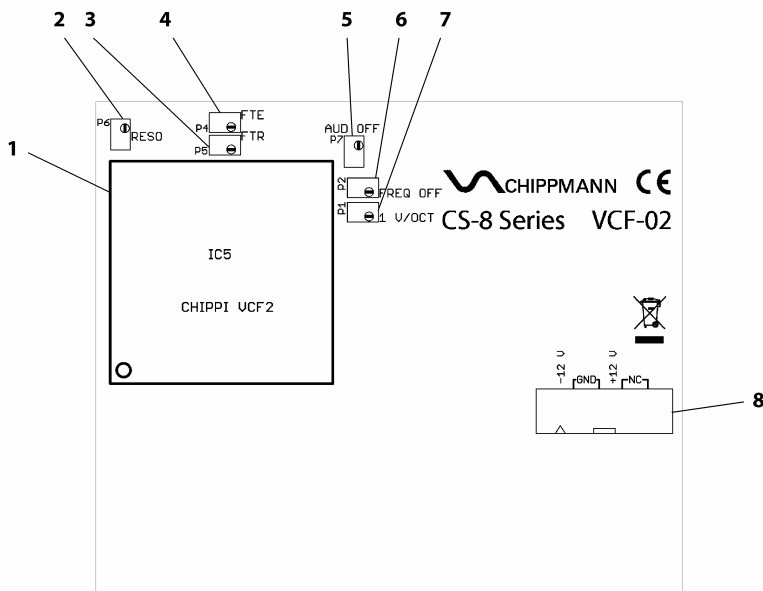

Fig. 2
Fig. 2 shows the back of the module with consecutively numbered elements.
The power connector's (8) pin-out in top view (refer to fig. 2) is assigned as follows:
To hook up power to the module, connect one of the IDC-sockets of the included flat ribbon cable to the connector (refer to fig. 2). Observe guide key for the polarity of the connector in order to avoid pin reversal. The red tag of the cable is to match the triangle-label.